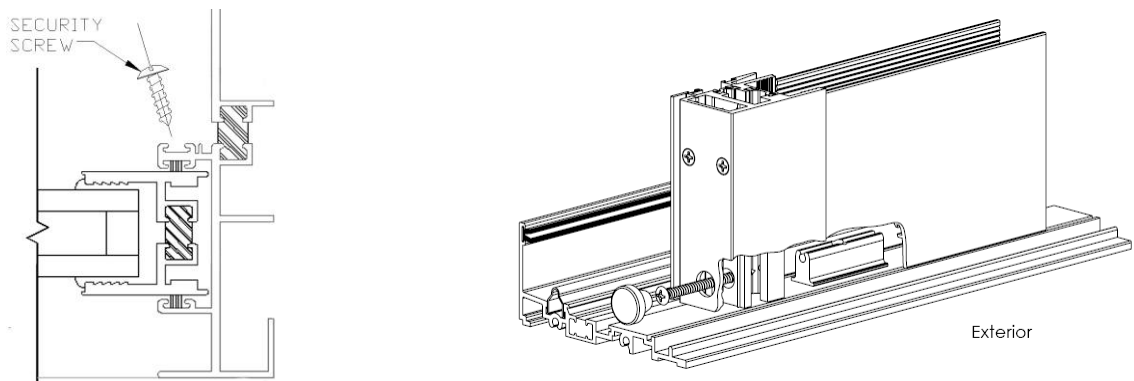

Figure 26:
3. **Installing the fixed panel security screw:** Using a 1/8” drill bit, drill a hole into the fixed stile below the glass as shown in Figure 26. Then insert a black #8 x 3/4” PHP TEK security screw. Fasten the panel to the sill block using the provided #10 OH - A, 2.5, Zinc, Gold screw (Figure 26).